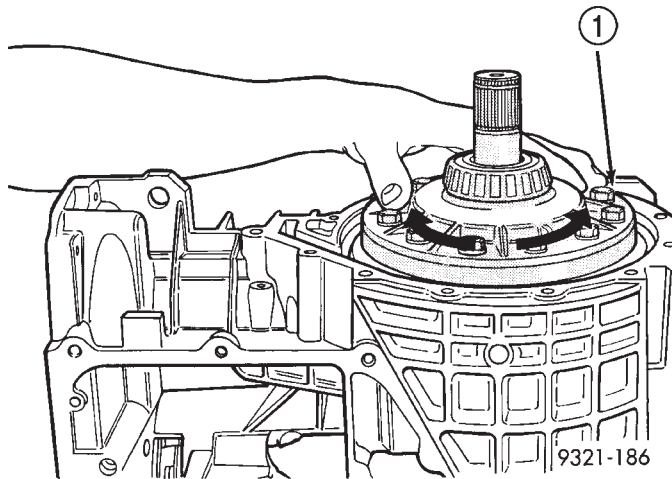

Fig. 426 Rocking Ring Gear Back and Forth
(52) Transfer shaft to ring gear backlash should be 0.006" to 0.009" thousands of an inch. To get the backlash close enough to measure, perform the following steps. Hold the transfer shaft with one hand and rock the ring gear back and forth (Fig. 426). You should feel some backlash between the gears. If no backlash is felt use special tool 6502B to turn the inner adjuster so that it raises the differential assembly. This will increase backlash. If there is too much backlash, use special tool 6502B to turn the inner adjuster so that it lowers the differential assembly. This will decrease backlash. Recheck the backlash after each adjustment.